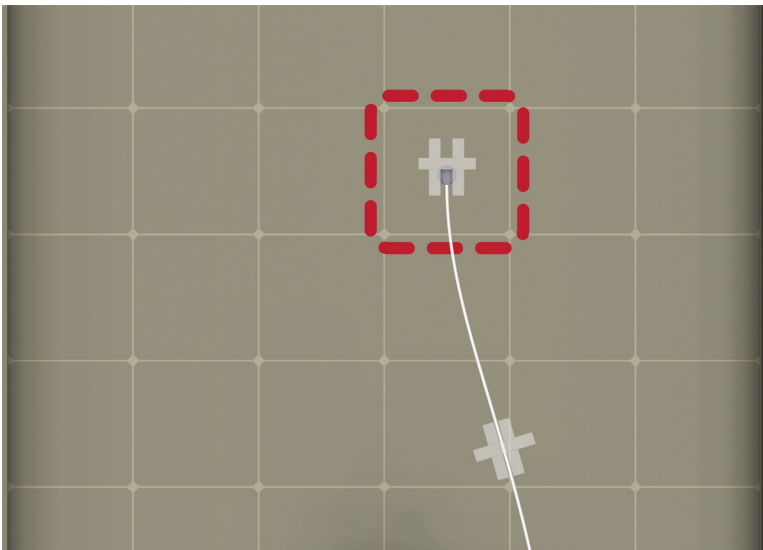

Figure 7-1. Proper tape usage
2. Place the other strips of tape perpendicular and on top of the first strip of tape and rub the tape surface to remove bubbles (see Figure 7-1 [p. 14]).